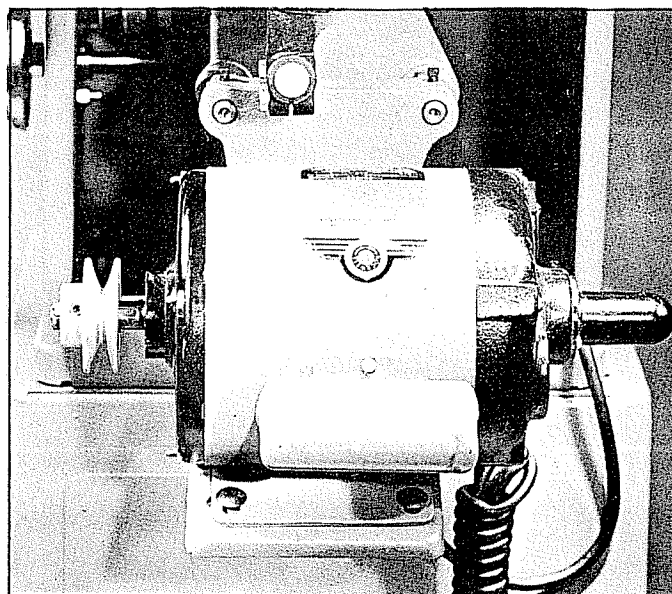

Fig. 5.
5. Attach the motor to the motor mounting plate using the bolts, nuts and washers provided. Before tightening the nuts, place the motor pulley on the motor shaft with the hub of the pulley extending out, as shown in Fig. 5. CAUTION: If the pulley does not readily slip onto the motor shaft, do not force it. Check the hole in the pulley, the key slots, and the motor shaft for any burrs or other obstructions which should be removed. If necessary, slightly enlarge the hole in the pulley with a round file or a piece of sand paper wrapped around a small dowel rod.